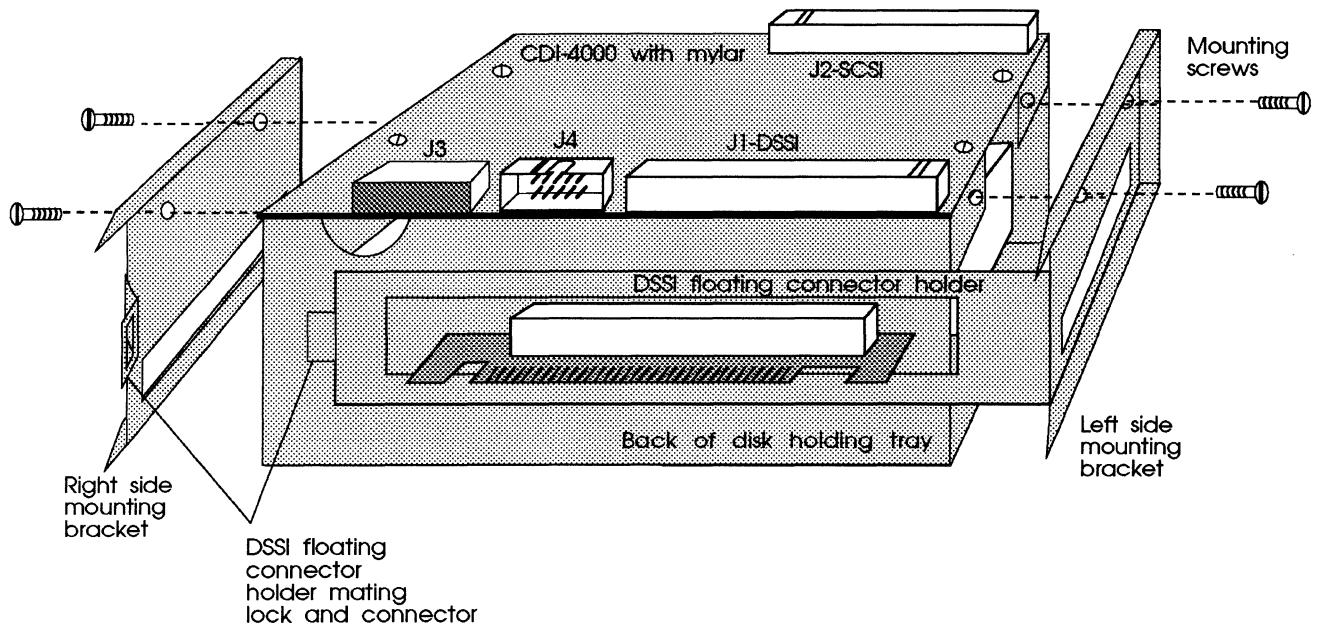

Figure 4-26: CDI-4000-SA2 right bracket installation
- 10 Locate the left side bracket and align it to the right side of the disk holding tray when facing the back of the tray. Put two screws into the holding tray through the left bracket. See Figure 4-26.
- 12 Align the right side bracket to the left side of the disk holding tray when facing the back of the tray. Put two screws into the disk holding tray through the right bracket. See Figure 4-26.